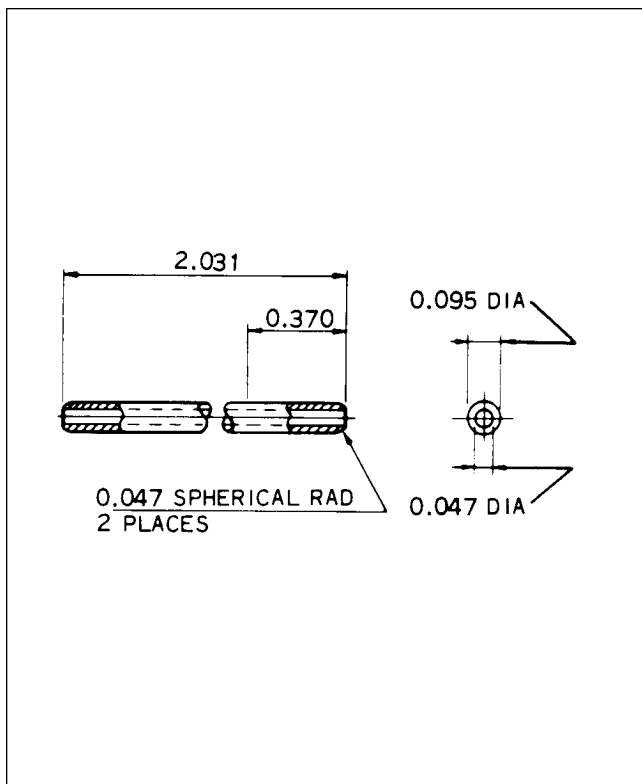
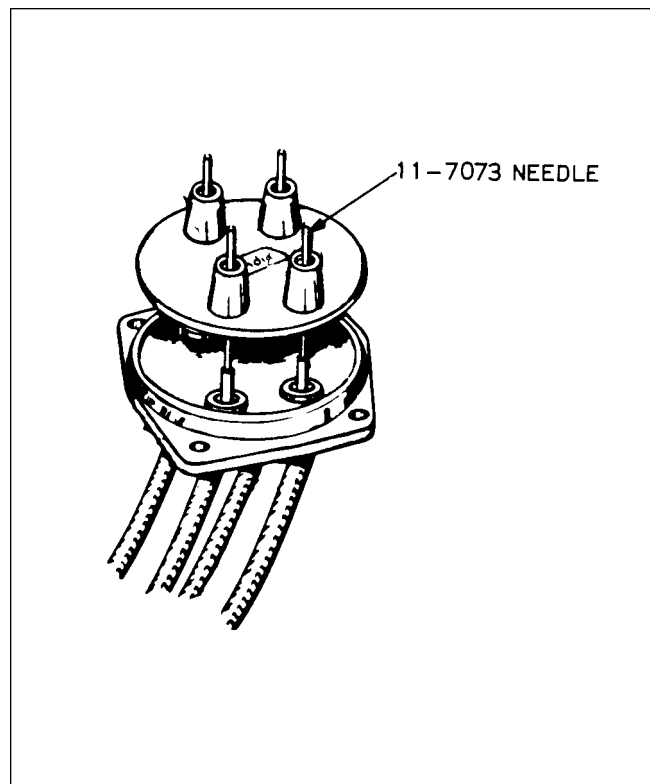

Figure 8-24. Needle
Figure 8-25. Installing Grommet
14. Insert Bendix 11-7073 Needle (Figure 8-24) through the small hole of the grommet and over the stripped end of the wire. (Refer to Figure 8-25.) Slide grommet down needle until it seats tightly against the tapered ferrule.